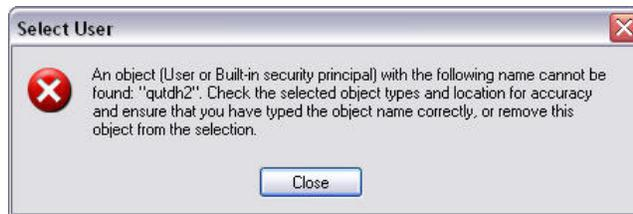

FIG. 42
- j. If the computer cannot find your user name the error message shown in FIG. 42 displays. Check the select object types and location for accuracy and try entering your user name again. If you still receive the error message, contact your IT person for assistance.